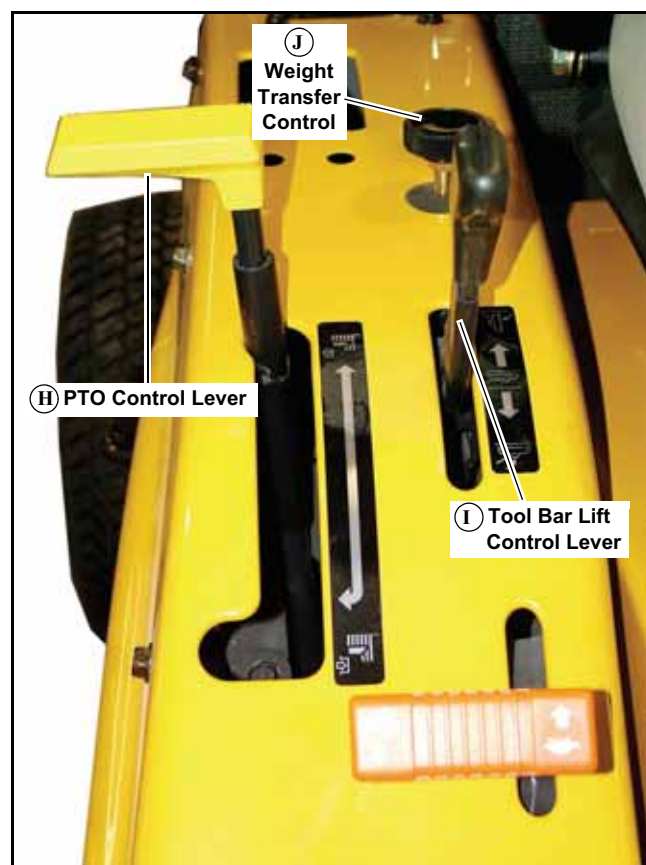

Figure 3-11
H. PTO Control lever (Figure 3-11) — This lever engages and disengages the PTO. Move the lever forward and hold it to engage the PTO. Move the lever rearward to disengage the PTO.
I. Tool Bar Lift Control lever (Figure 3-11) — The front mounted equipment can be raised and lowered by the tool bar lift control lever. Place handle in the forward position to lower and to the rearward position to raise front mounted equipment.
J. Weight Transfer Control (Figure 3-11) — This feature enables the operator to transfer the weight of the deck or other equipment to the tractor unit.